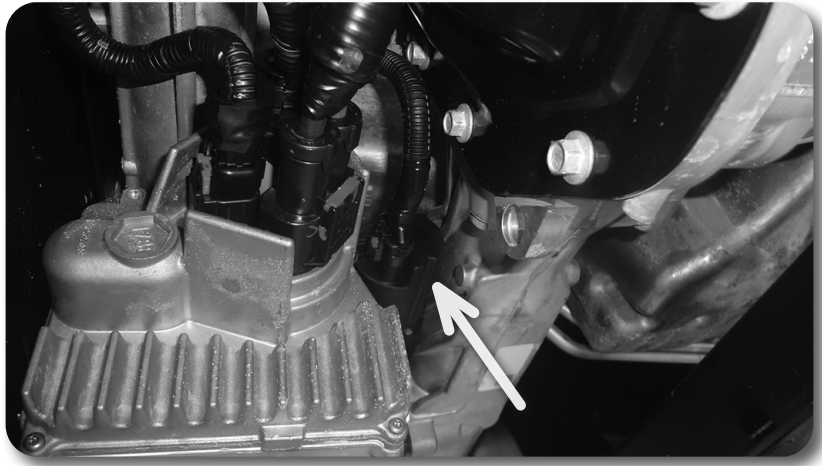

Figure 16
23. Disconnect the differential actuator wire connector from the actuator **Fig. 16**.